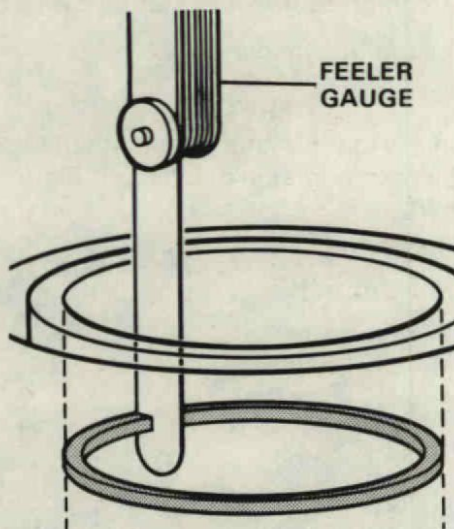

Figure 26. Measuring Piston Ring Gap.
A. Insert new piston ring in cylinder just above exhaust port and intake ports. Figure 26.
B. Measure ring gap with feeler gauge. Figure 26.